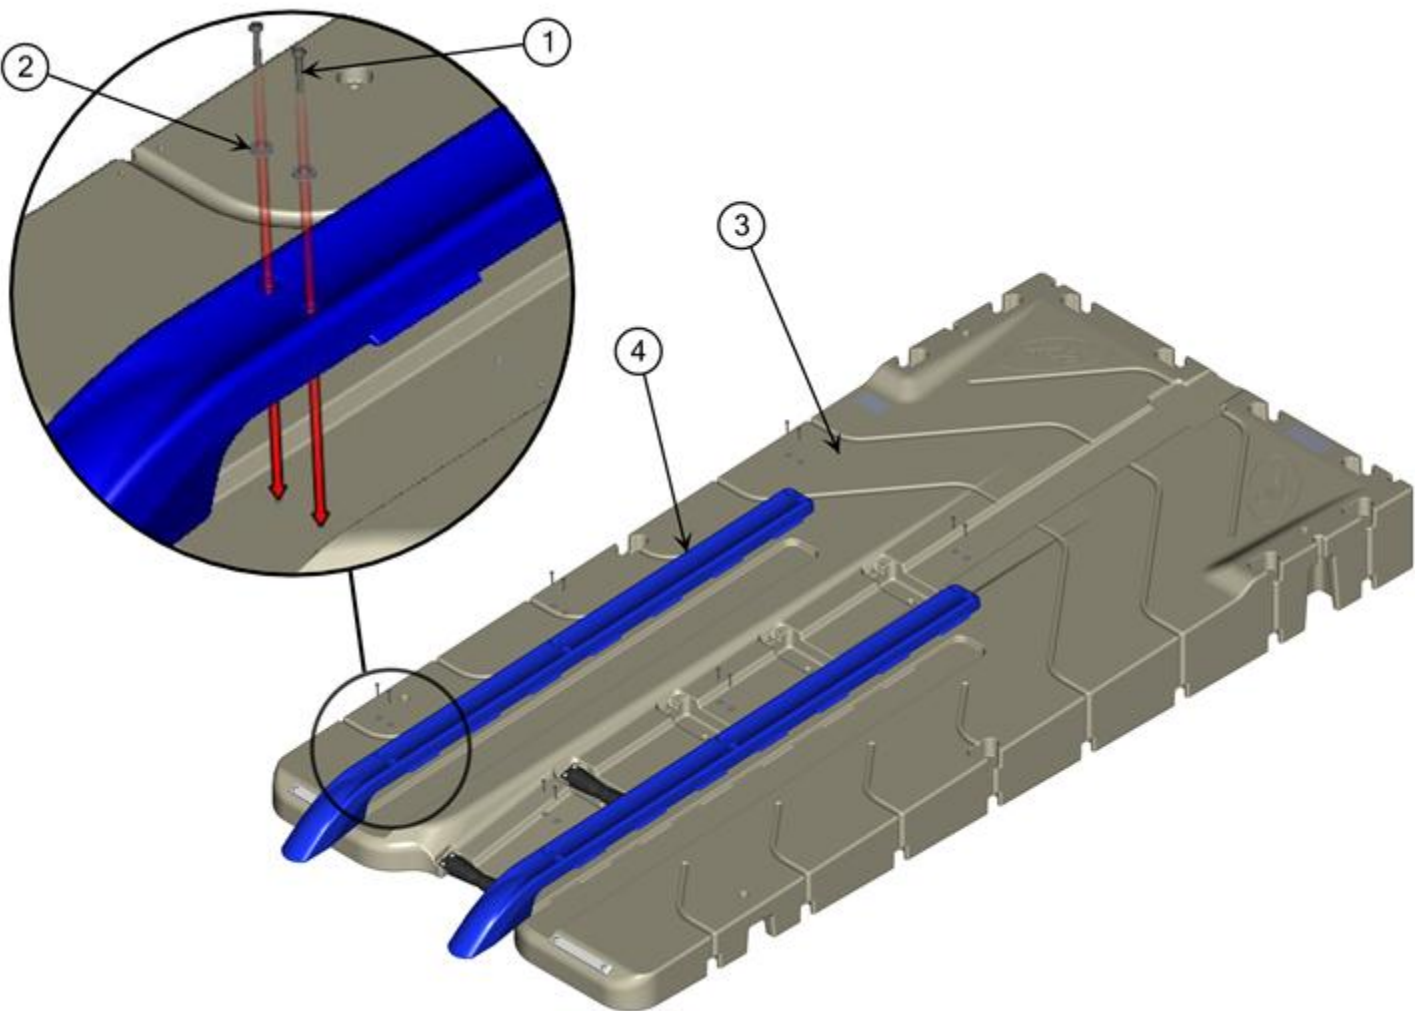

Figure 22.
- 1. Place the long entry bunks (Item 4) in recessed areas on the EZ BoatPort (Item 3) (Figure 22). Each bunk is symmetrical and has tabs on each side. First, these tabs should be inserted in the tab pockets on the port, then rotate the bunk down towards the port.
- 2. Secure each long bunk with two (2) washers (Item 2) and two (2) bolts (Item 1) in the slotted holes located at the middle of the bunk.
- 3. Secure the bunk with the remaining four (4) washers and bolts in the slotted holes located at each end of the bunk.